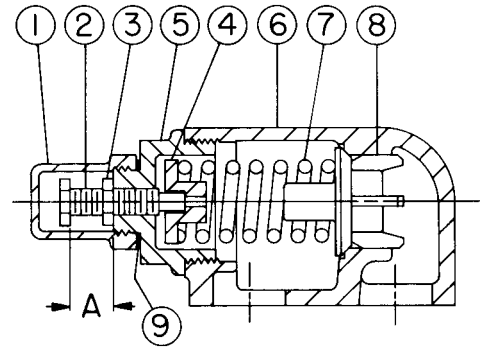

FIGURE 16 - SIZE G, H AND HL
2. Measure and record length of extension of adjusting screw. Refer to "A" on Figures 16, 17 and 18, page 8.